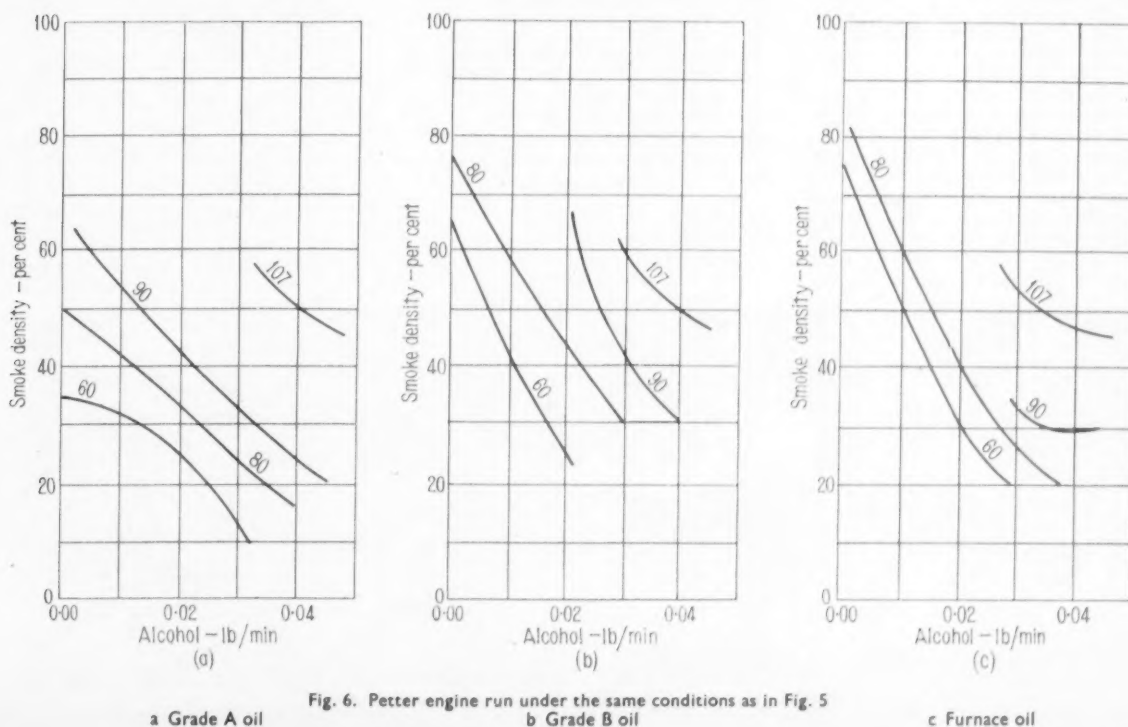

Fig. 6. Petter engine run under the same conditions as in Fig. 5
6. The smoke density was reduced considerably as a result of induction of alcohol. For any particular load, the higher the rate of alcohol inducted, the lower was the smoke density, Fig. 6. When the engine was run on Grade A and Grade B fuels at full load with induction of maximum quantity of alcohol, the exhaust colour was comparable with that of a petrol engine.